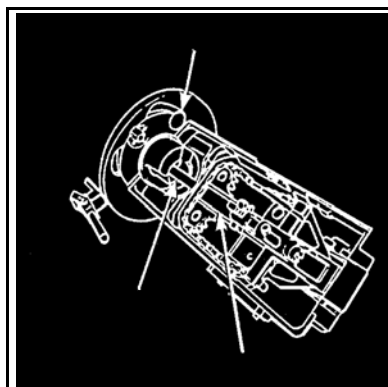

Figure 10. Face of bolt, chamber, and forward eject port.
(1) Check the face of the bolt, chamber, and forward eject port (Figure 10).
(2) Remove any ammunition from the receiver.